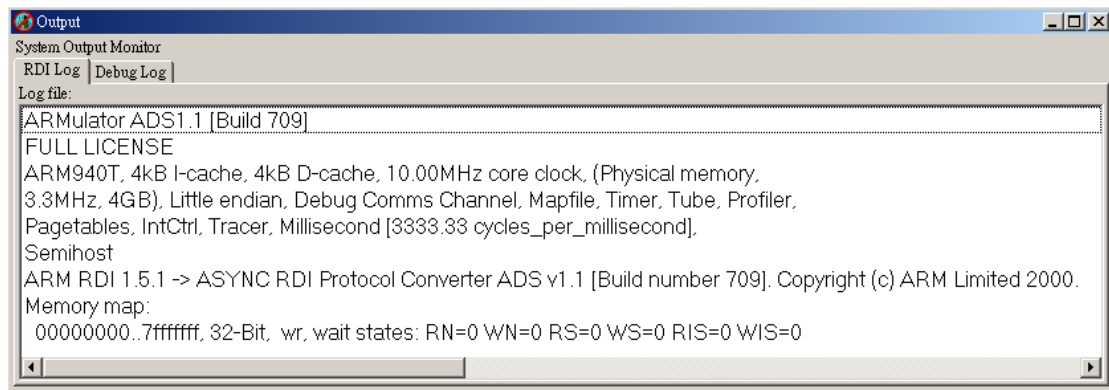

Figure 4. ARMulator startup Message.
3. After the step 2, check the message shown in ARMulator startup banner: **System Output Monitor - RDI Log**. An example result is displayed in Figure 4.
7. Open **Command Line Interface Window** and enter `print $statistics`. An example result is displayed in Figure 4.